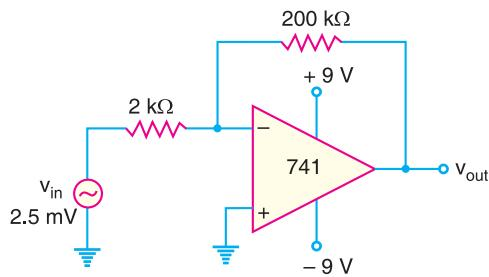

Fig. 25.50
**Example 25.26.** Determine the output voltage for the circuit of Fig. 25.50.